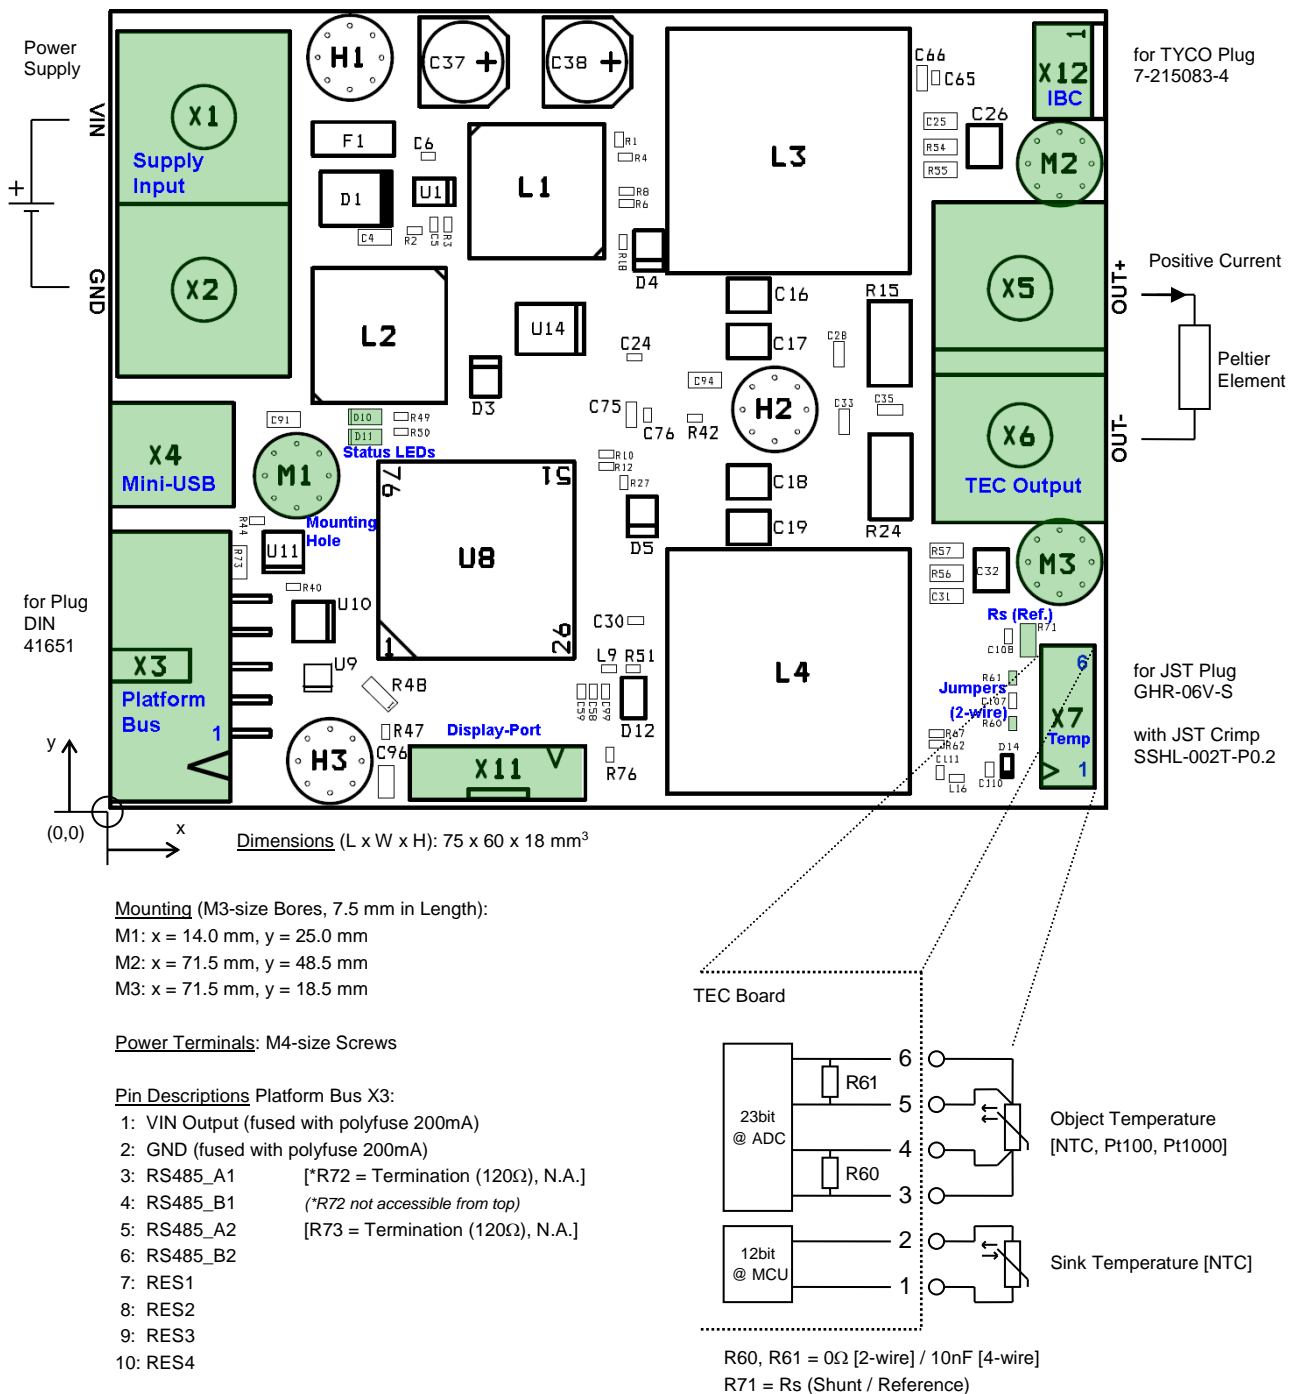
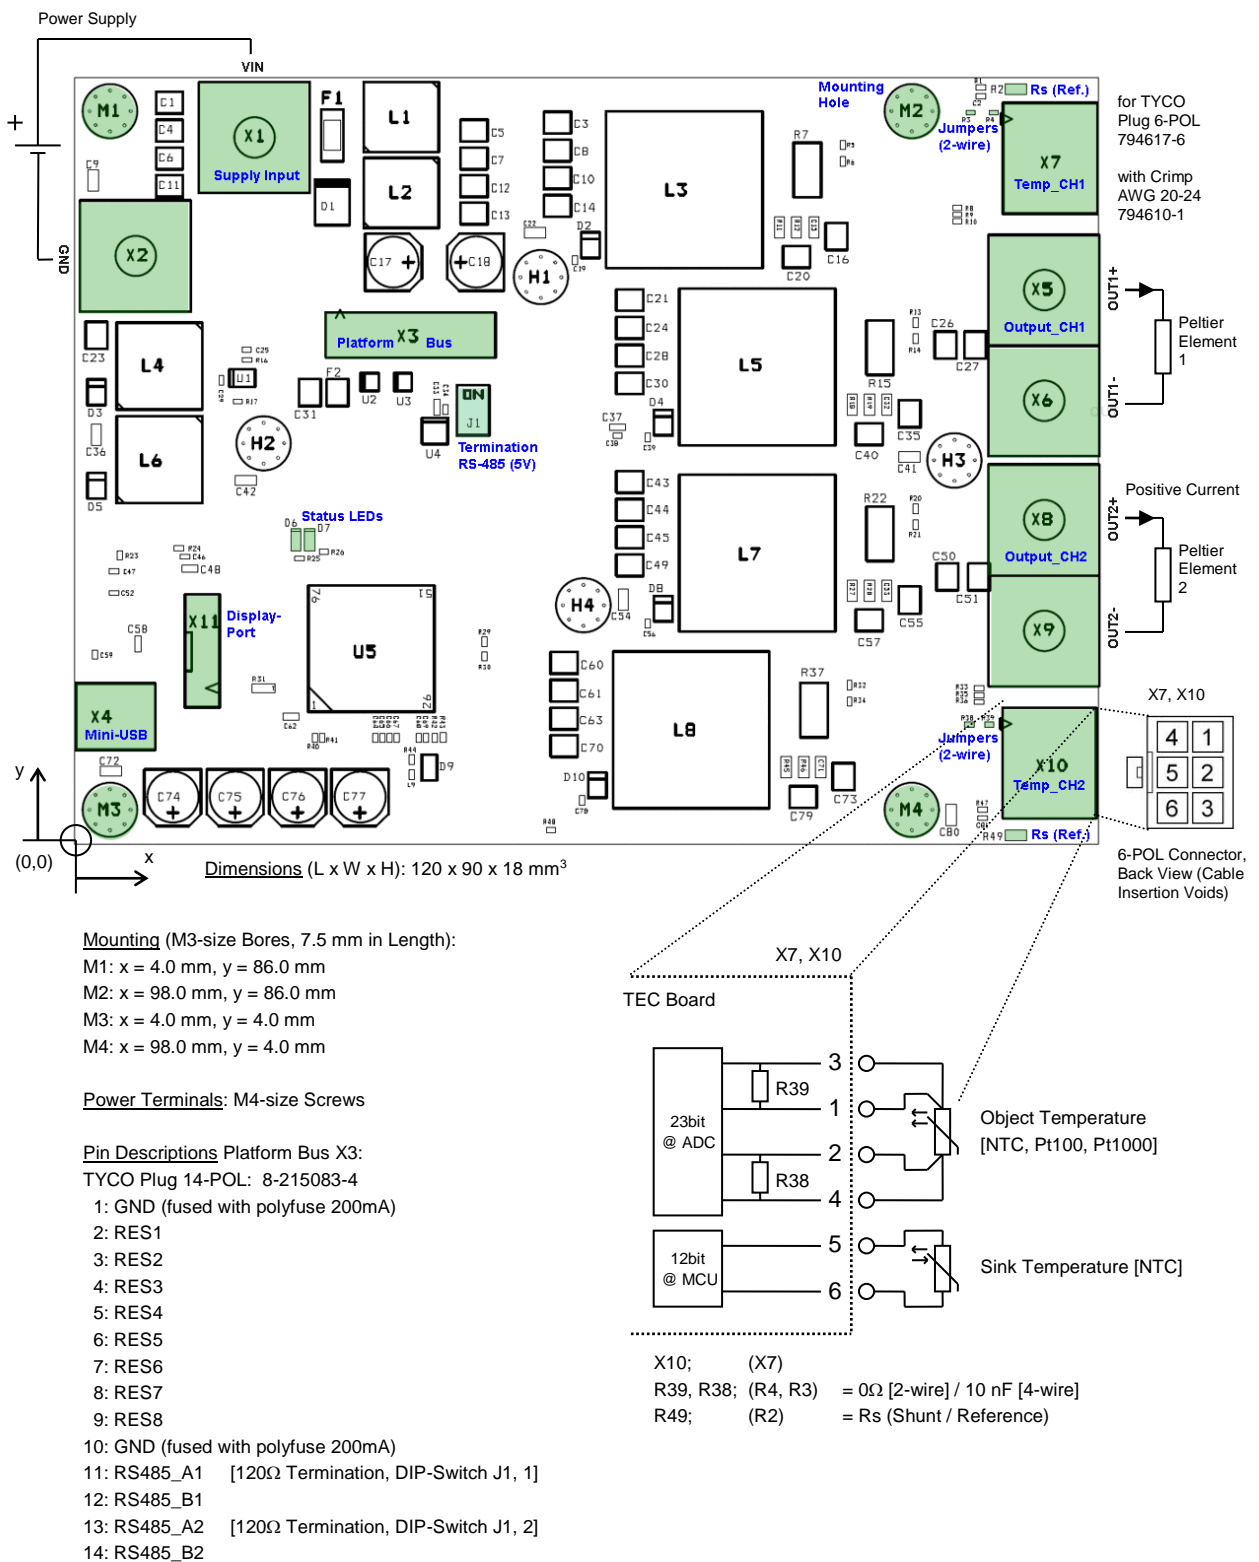

Figure 2. Schematic top view of a TEC-1089-based single-channel TEC controller.
Figure 3. Schematic top view of a TEC-1122-based dual-channel TEC controller.
- Locate the four mounting holes M1-M4 (TEC-1091-based: see Figure 1, TEC-1089-based: see Figure 2, TEC-1122-based: see Figure 3)
□ Either the green or the red status LED (see Figure 1, Figure 2 or Figure 3) should be blinking / lit